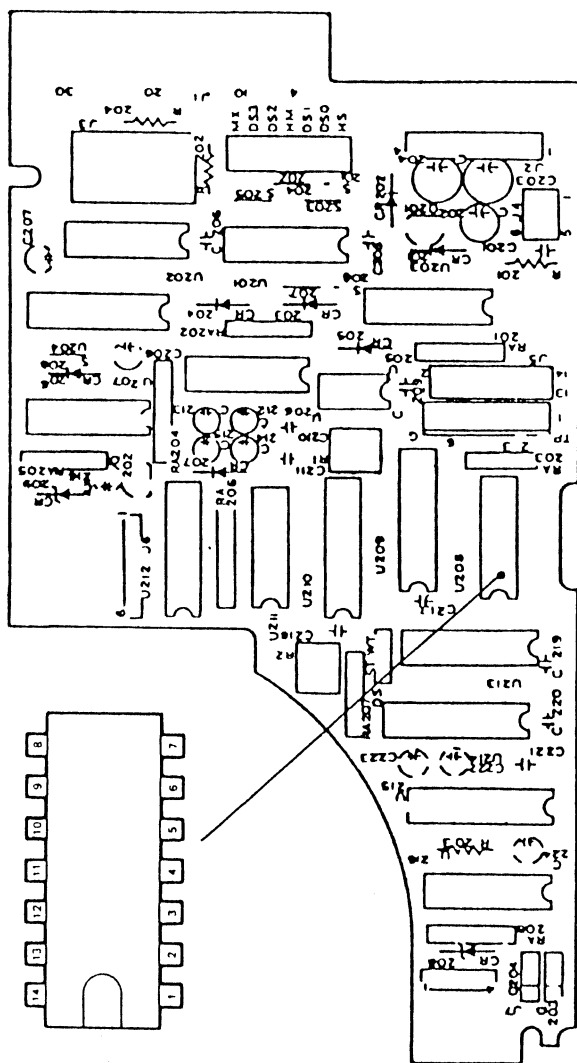

Figure 5.9 PCBA MFD control-track 00 sensor check
- Identify U208 on the PCBA MFD control board (see Figure 5.9).